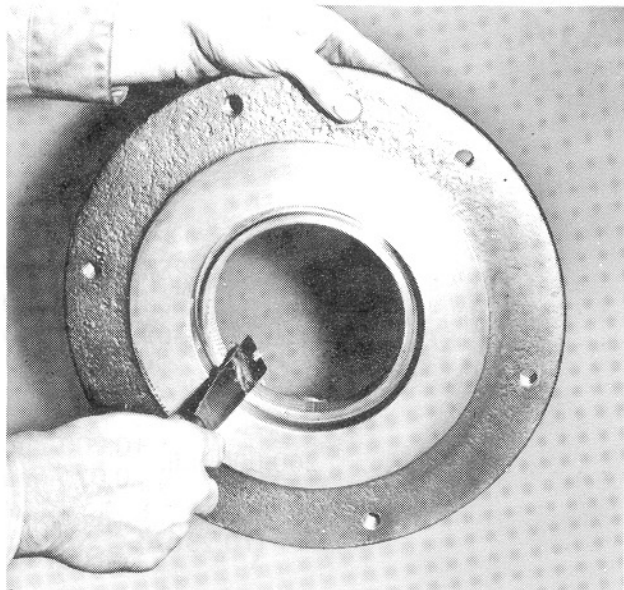

Fig. 8 - Grease Application To Labyrinth Grooves 18930
1. After thorough cleaning and inspection of all bearing parts, fill the labyrinth grooves in the bearing cap and cover flush with unweighed grease, Fig. 8.